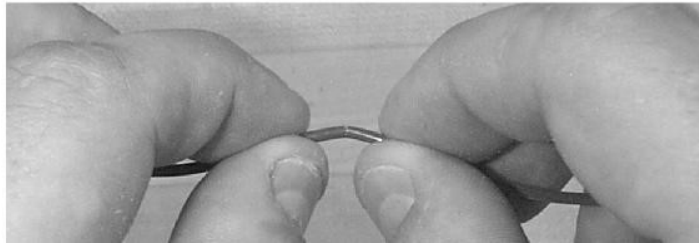

Figure 13 . Flex and separate the tube at the score mark
4.14 Grasp the tube on both sides of the score mark and gently flex to separate the tube (Figure 13).